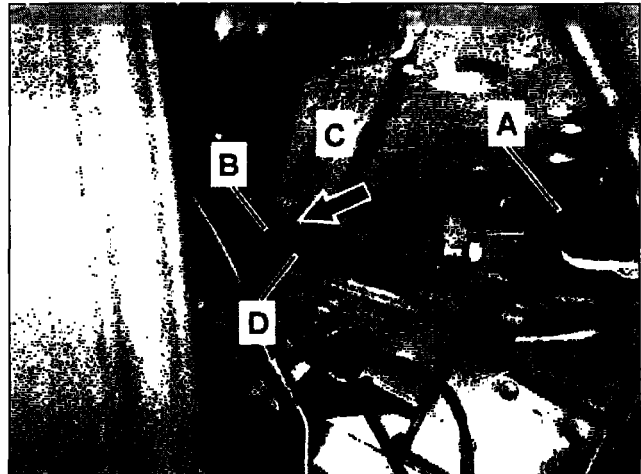

Figure 27
27. Connect SBC harness connector (A, Figure 27) to SBC hydraulic unit and secure by engaging locking mechanism.
32. Secure SBC wiring harness (B, Figure 27) to SBC hydraulic unit bracket (C) with cable tie (arrow). Tighten cable tie (arrow) using Hellermann MK9 cable tie pliers (Special Tool W 352 589 02 37 00); use **setting 3** on cable tie pliers.**Note**
- The cable tie buckle (D) must not touch the bracket (C).
- When attaching SBC wire harness (B) to the bracket (C), ensure that the wire harness (B) touches the bracket (C) and is mounted there tension free.
- After the SBC wire harness (B) is secured, it must not be able to move in the longitudinal direction toward the bracket.